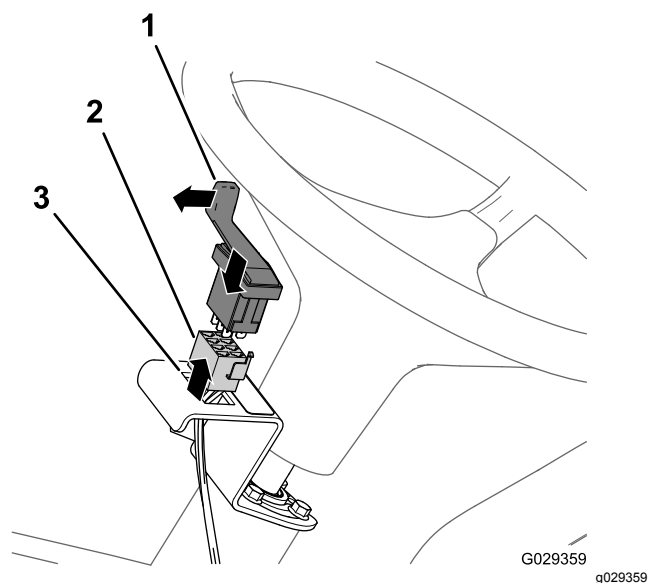

Figure 209
4. Assemble the switch into the bracket and press in the switch until it snaps securely into the opening (Figure 209).